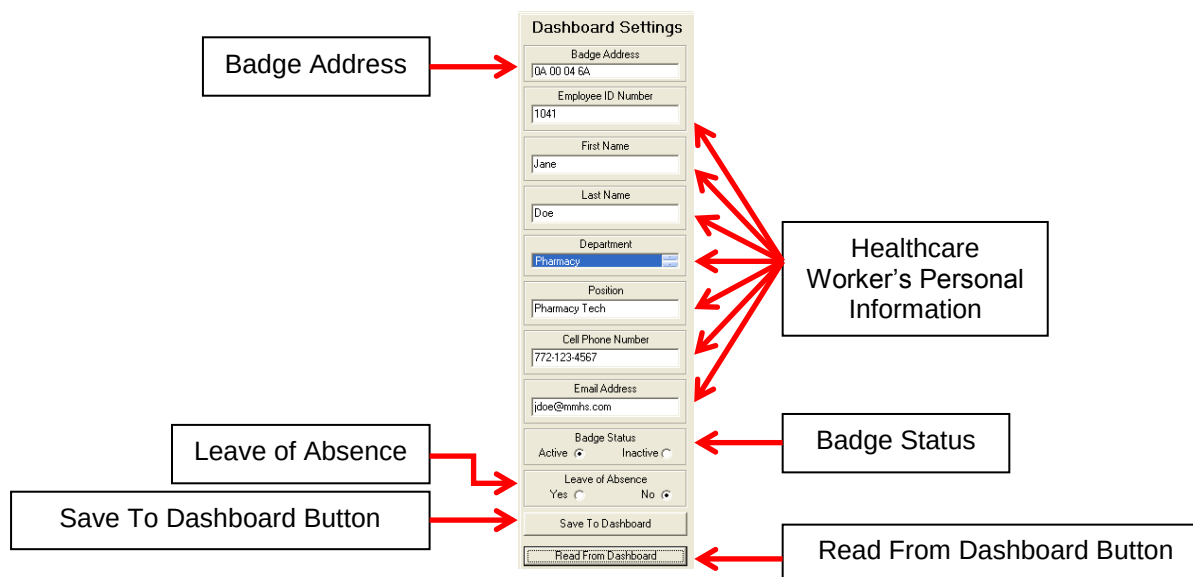

Figure 5 Healthcare Worker's Information
2.5 Dashboard Settings (refer to Figure 5)